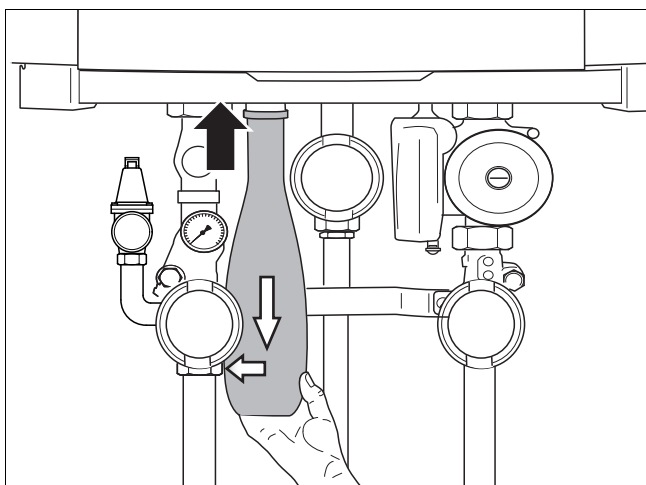

Fig. 7 Installing the condensate trap
- Connect the condensate trap (fig. 7) to the condensate water outlet. The condensate trap has a bayonet connector, insert and turn  $\frac{1}{4}$  rotation clockwise to click into position.